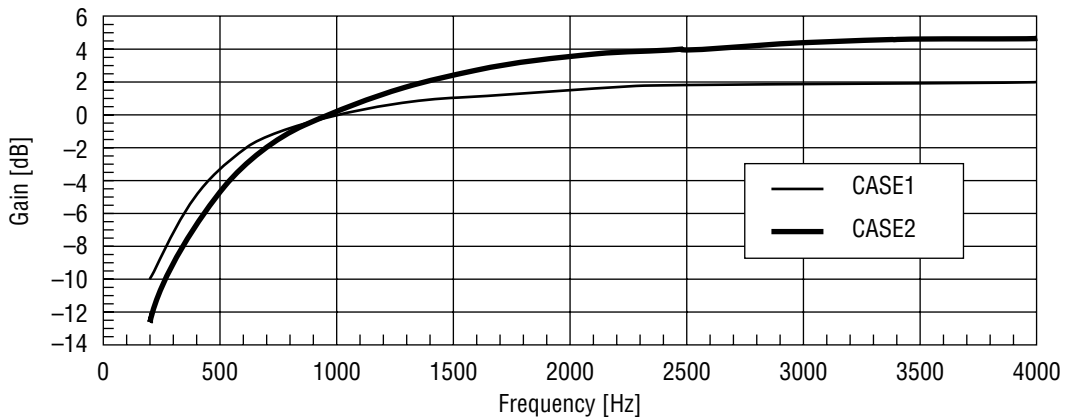

Figure 4 Frequency Response of Slope Filter
- B1..... Slope Filter's frequency response select; 0/CASE1, 1/CASE2 Refer to Figure 4.